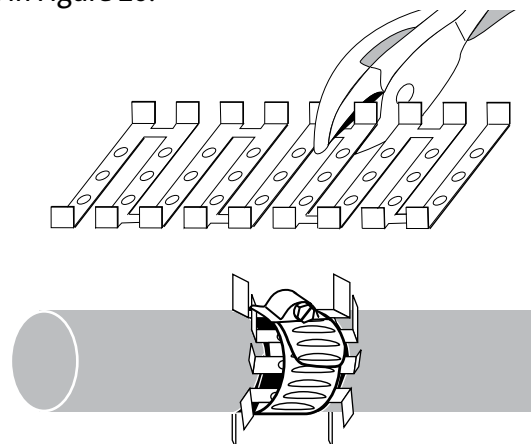

Figure 10
Step 3: Install a sheath retention clamp on the cable as illustrated in Figure 10.